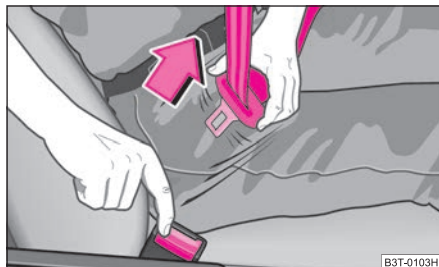

Fig. 153 Releasing lock tongue from belt lock
- Press the red button in the belt lock ⇒ **fig. 153**. The spring force causes the tongue of the lock to jump out.